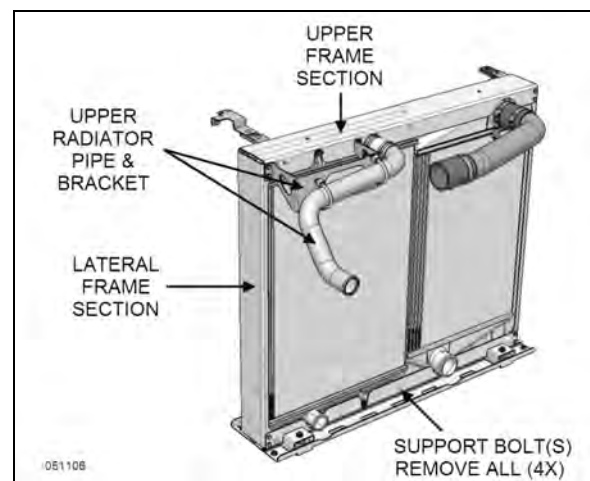

FIGURE 39: COOLING PACK PARTS TO BE REMOVED FOR RADIATOR REPLACEMENT
20. To proceed to the radiator replacement, remove radiator upper pipe section, bracket and hardware, unbolt the four support bolts passing through the radiator and holding it to the frame (upper & lower) also unbolt the cooling pack frame upper and lateral sections and slide the old radiator out (Figure 39).